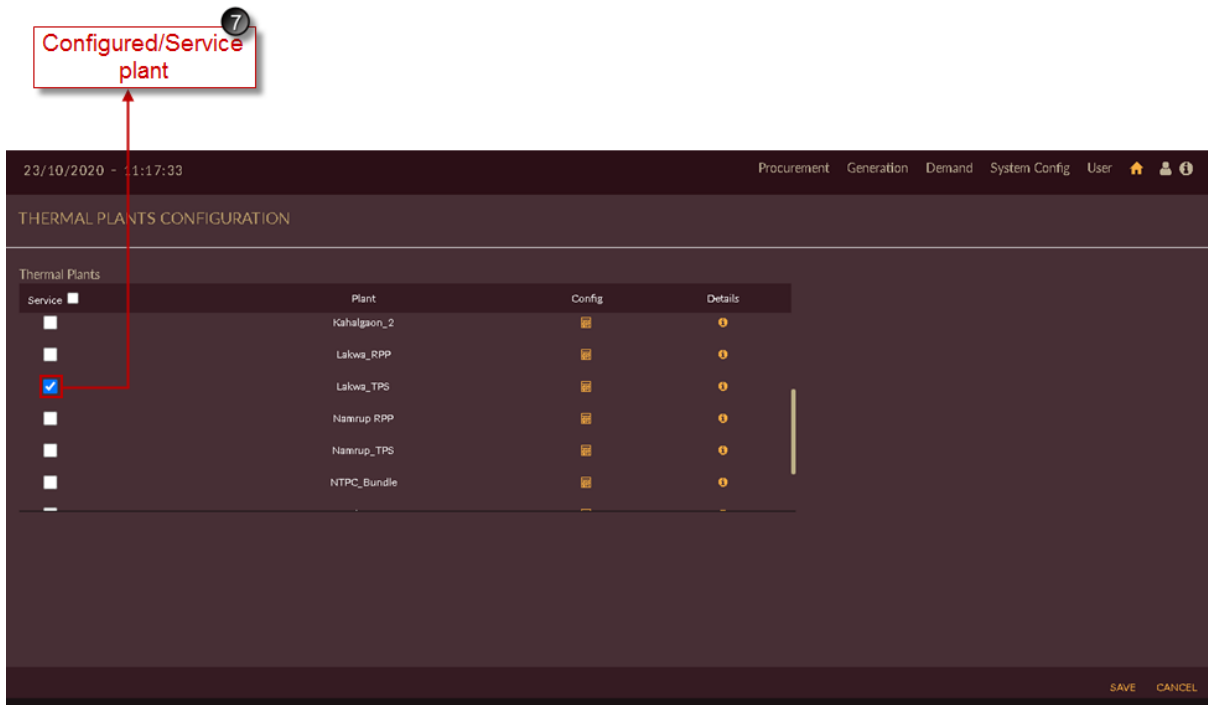

Figure 212. Successfully Configured Thermal Plant
- Figure 212 shows configured thermal plant into the IRM Base case scenario. Blue tick indication  appears for the plant which is configured or participating into the scenario for IRM studies.